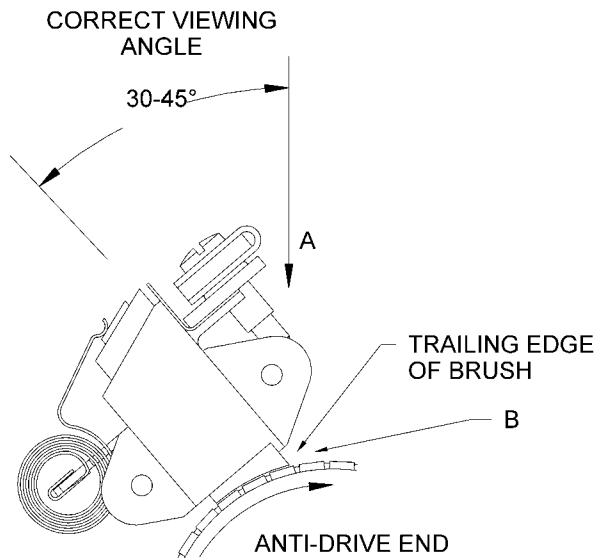

Figure 9 - Correct Viewing Angle
- (3) Residual Voltage Test:
- (4) Overspeed:
- (5) Commutation:
- (a) Operate the starter-generator at 12,000 RPM, 300 A. See Figure 9.